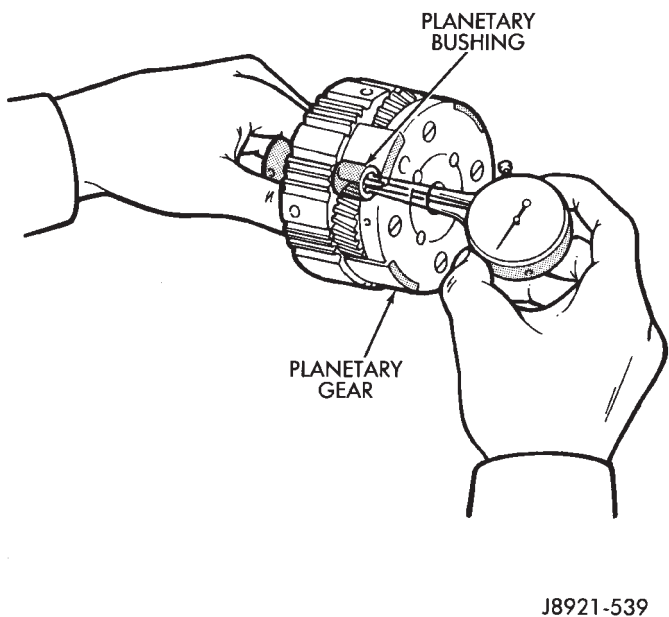

Fig. 19 Checking Planetary Bushing
(21) Check inside diameter of planetary gear bushing (Fig. 19). Maximum inside diameter is 11.27 mm (0.4437 in.). Replace planetary gear if bushing inside diameter is greater than specified.